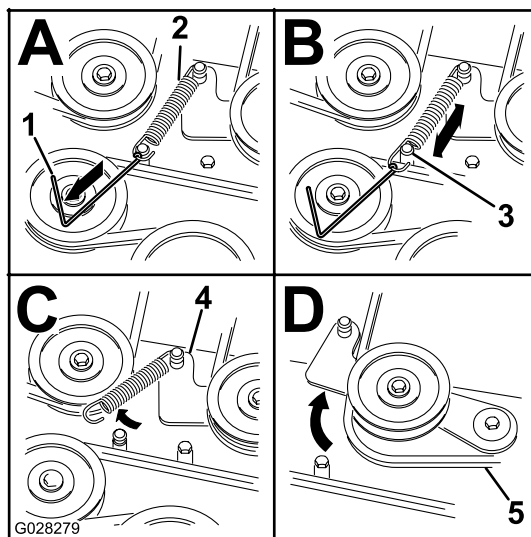

Figure 66
7. Using a spring removal tool, (Toro Part No. 92-5771), remove the idler spring from the deck post to remove tension on the idler pulley (Figure 66).
10. Install the new belt around the mower pulleys and the clutch pulley under the engine (Figure 66).
11. Using a spring-removal tool, (Toro Part No. 92-5771), install the idler spring over the deck post and placing tension on the idler pulley and mower belt (Figure 66).